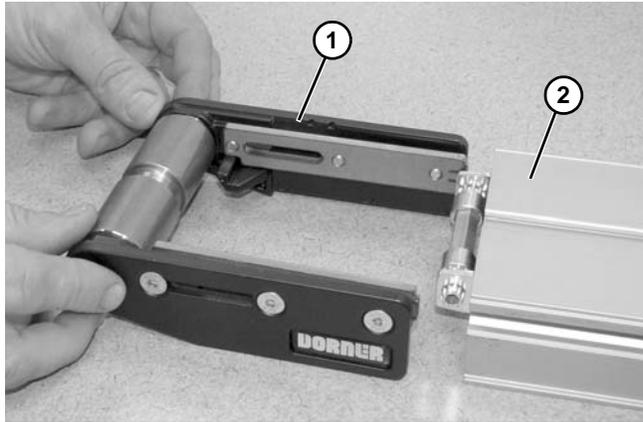

Figure 144
2. Remove idler tail (**Figure 144, item 1**) by sliding off of the conveyor (**Figure 144, item 2**).